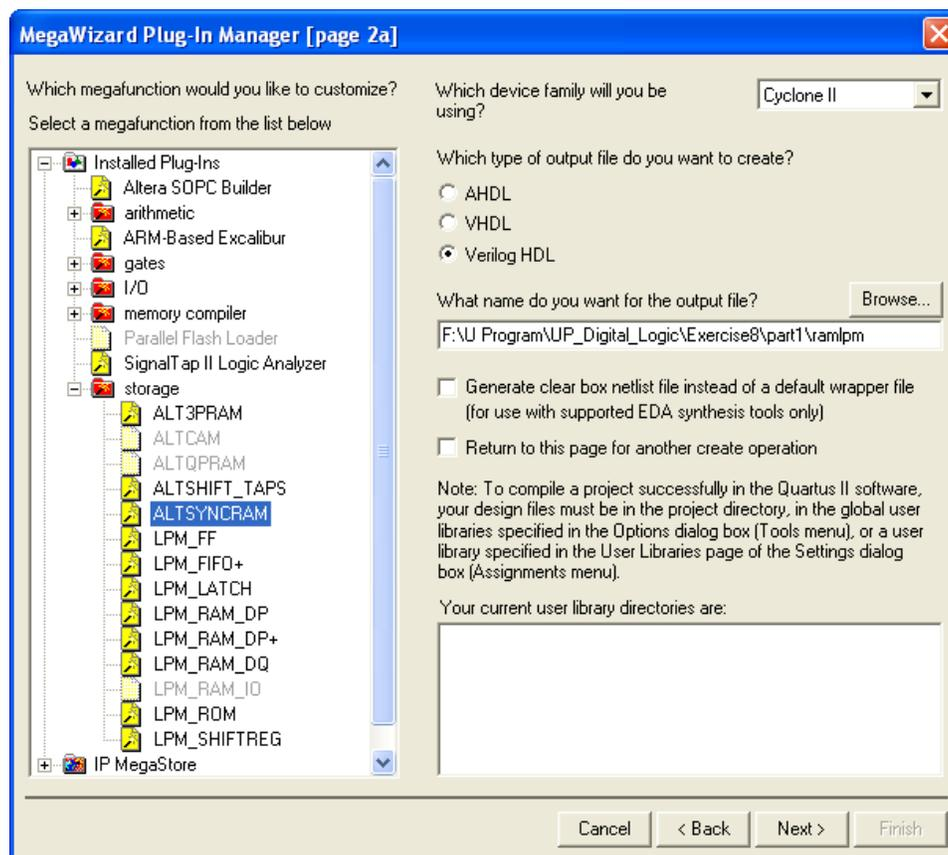
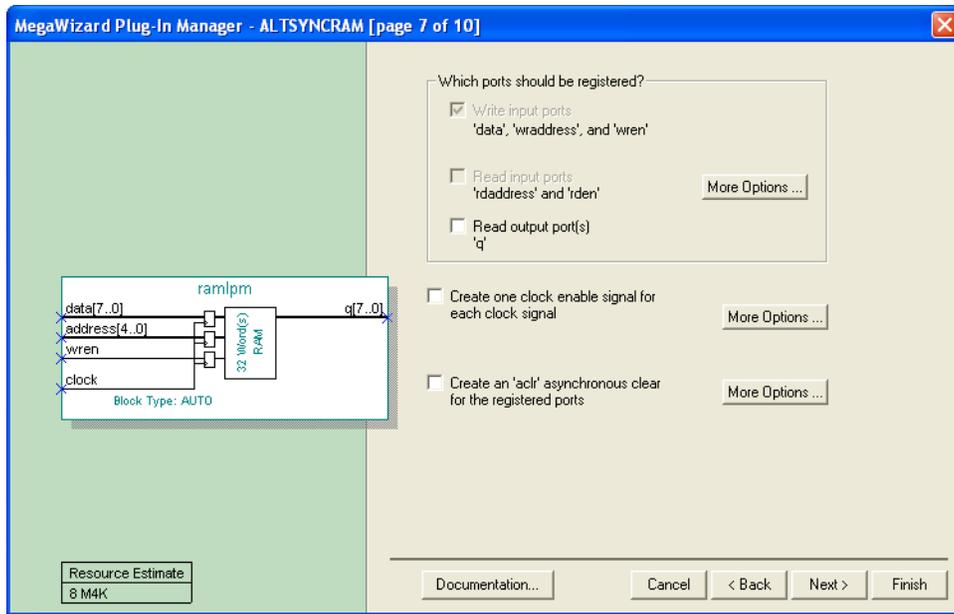

Figure 2. Choosing the *altsyncram* LPM.
Figure 3. Configuring input and output ports on the *altsyncram* LPM.
2. You can learn how the MegaWizard Plug-in Manager is used to generate a desired LPM module by reading the tutorial *Using Library Modules in Verilog Designs*. This tutorial is provided in the University Program section of Altera's web site. In the first screen of the MegaWizard Plug-in Manager choose the *altsyncram* LPM, which is found under the *storage* category. As indicated in Figure 2, select Verilog HDL as the type of output file to create, and give the file the name *ramlpm.v*. On the next page of the Wizard specify a memory size of 32 eight-bit words, and select M4K as the type of RAM block. Advance to the subsequent page and accept the default settings to use a single clock for the RAM's registers, and then advance again to the page shown in Figure 3. On this page *deselect* the setting called Read output port(s) under the category Which ports should be registered?. This setting creates a RAM module that matches the structure in Figure 1b, with registered input ports and unregistered output ports. Accept defaults for the rest of the settings in the Wizard, and then instantiate in your top-level Verilog file the module generated in *ramlpm.v*. Include appropriate input and output signals in your Verilog code for the memory ports given in Figure 1b.